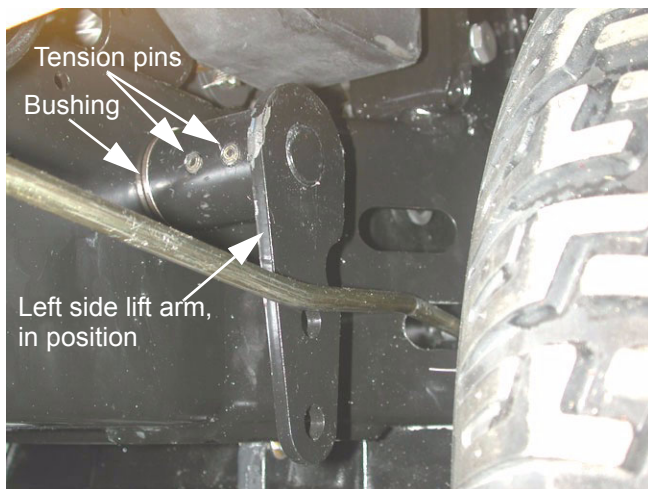

Figure 2.5
- 2.5. Install the left side lift arm on the lift shaft so that it is parallel with the right side lift arm. The holes in the arm must align with the holes in the lift shaft. The arm should be stepped-out away from the frame. See Figure 2.5.